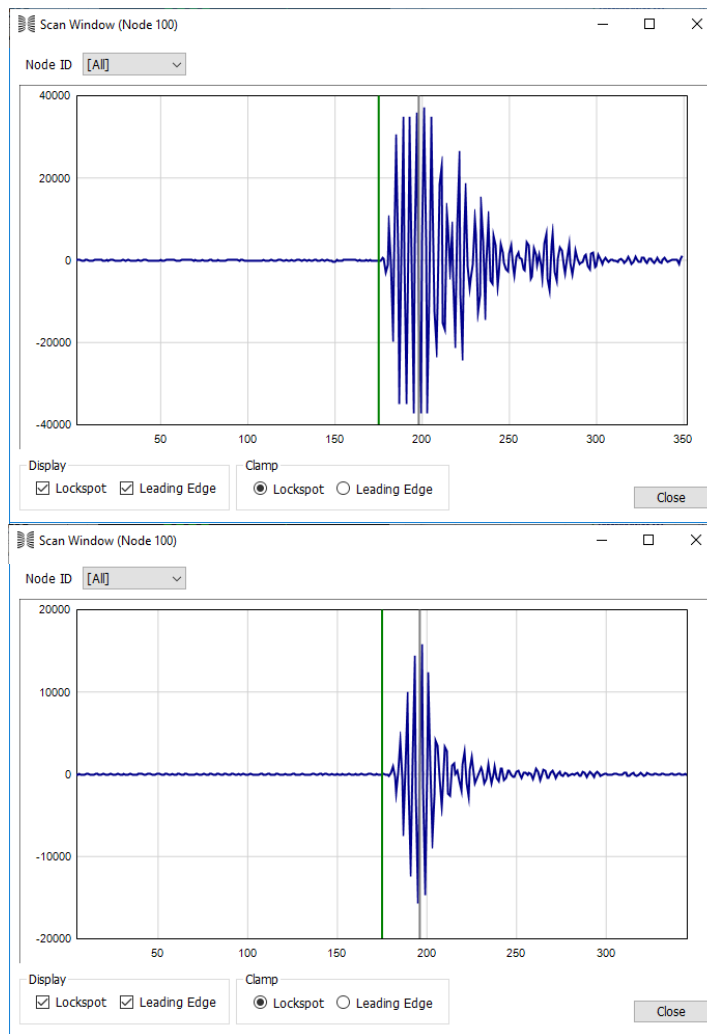

Fig. 12: Example of captured waveforms. Compressed waveform (top), uncompressed signal (bottom).
- c. If you click the **Scans** button at the bottom of the display, the waveform captured for each range measurement will be displayed. See the example shown in **Figure 12**. The green line indicates the leading edge of the waveform and the gray line indicates the zero crossing to which the radio has synchronized. The scales can be changed by holding the left or right mouse buttons down while moving the mouse up or down.
It should be noted that waveforms taken at such short ranges are compressed and clipped. They can be taken out of compression either by increasing the distance between the units or inserting attenuation between the P440 RF port and the antenna. The top waveform shown in **Figure 12** was taken with no attenuation while the bottom one was taken with a 20 dB attenuator in place.